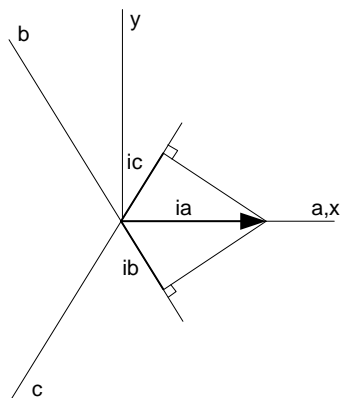

Figure 1: Illustration of DC magnetizing current in the three phases
- The currents should look according to Figure 1